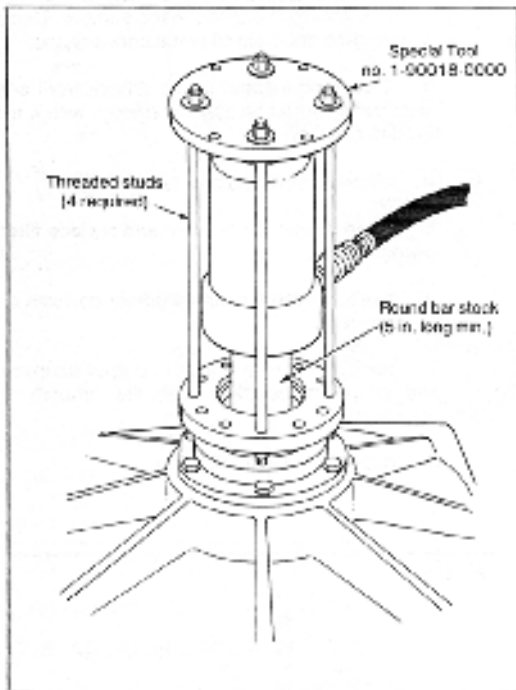

Fig. 31. Pulling Coupling from Output Shaft.
3. With suitable puller, pull drive coupling from output shaft. See fig 31.